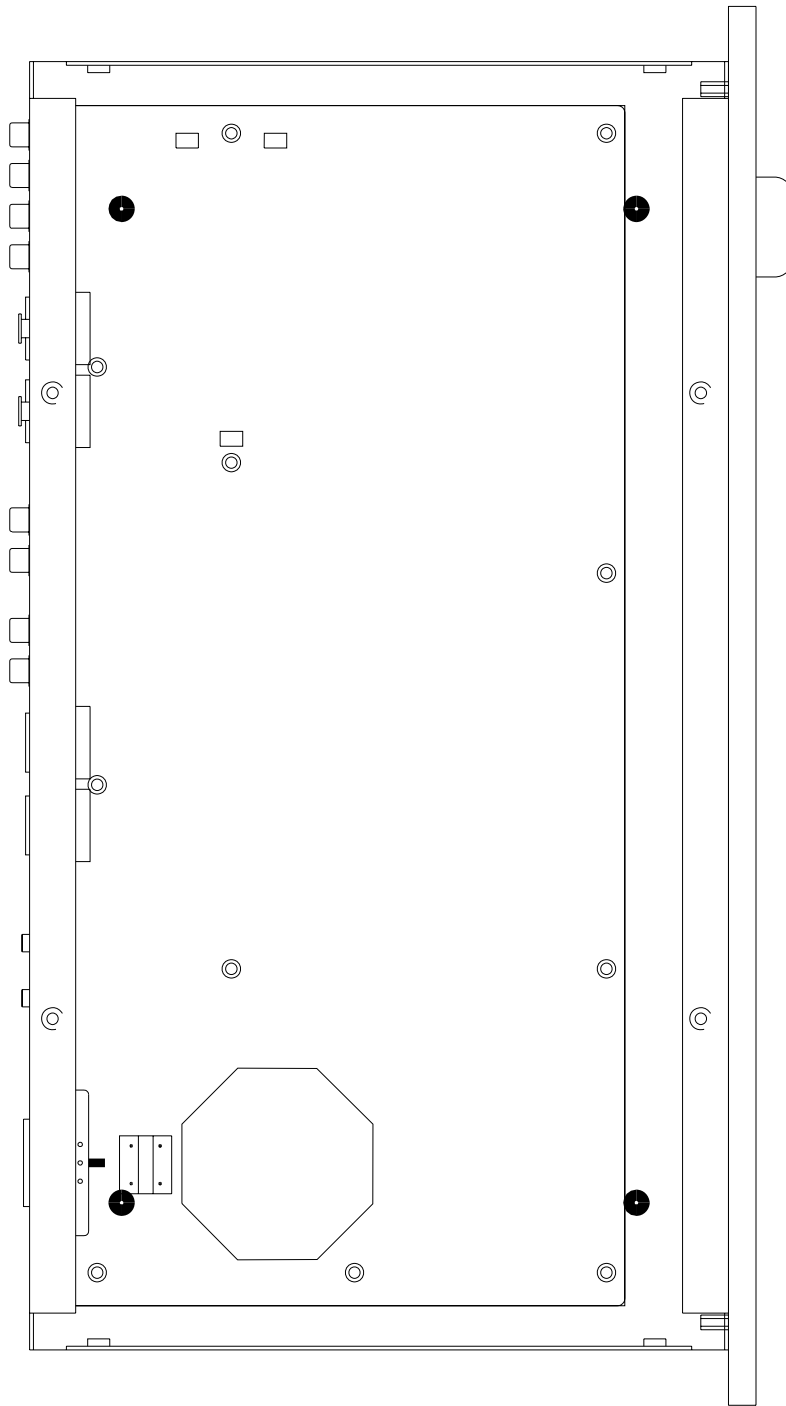

Fig 5: C-303 top view
- 3) Locate and replace the two mounting screws (see Fig.5, page 17) with the supplied stand-offs.
- 4) Remove jumpers J5, J6, J13 and J14 (see fig. 5, page 17). **Check if extension sockets are in place on the reverse side of the phono board.**
- 3) Remove the screws securing the phono board, remove the phono board and the stand-offs, replace the screws where the stand-offs were removed (see fig. 5, page 17) to secure the main board.
- 4) Replace jumpers J5, J6, J13 and J14 (see fig. 5, page 17) on the main board. Jumpers from the phono board can be used for that purpose.